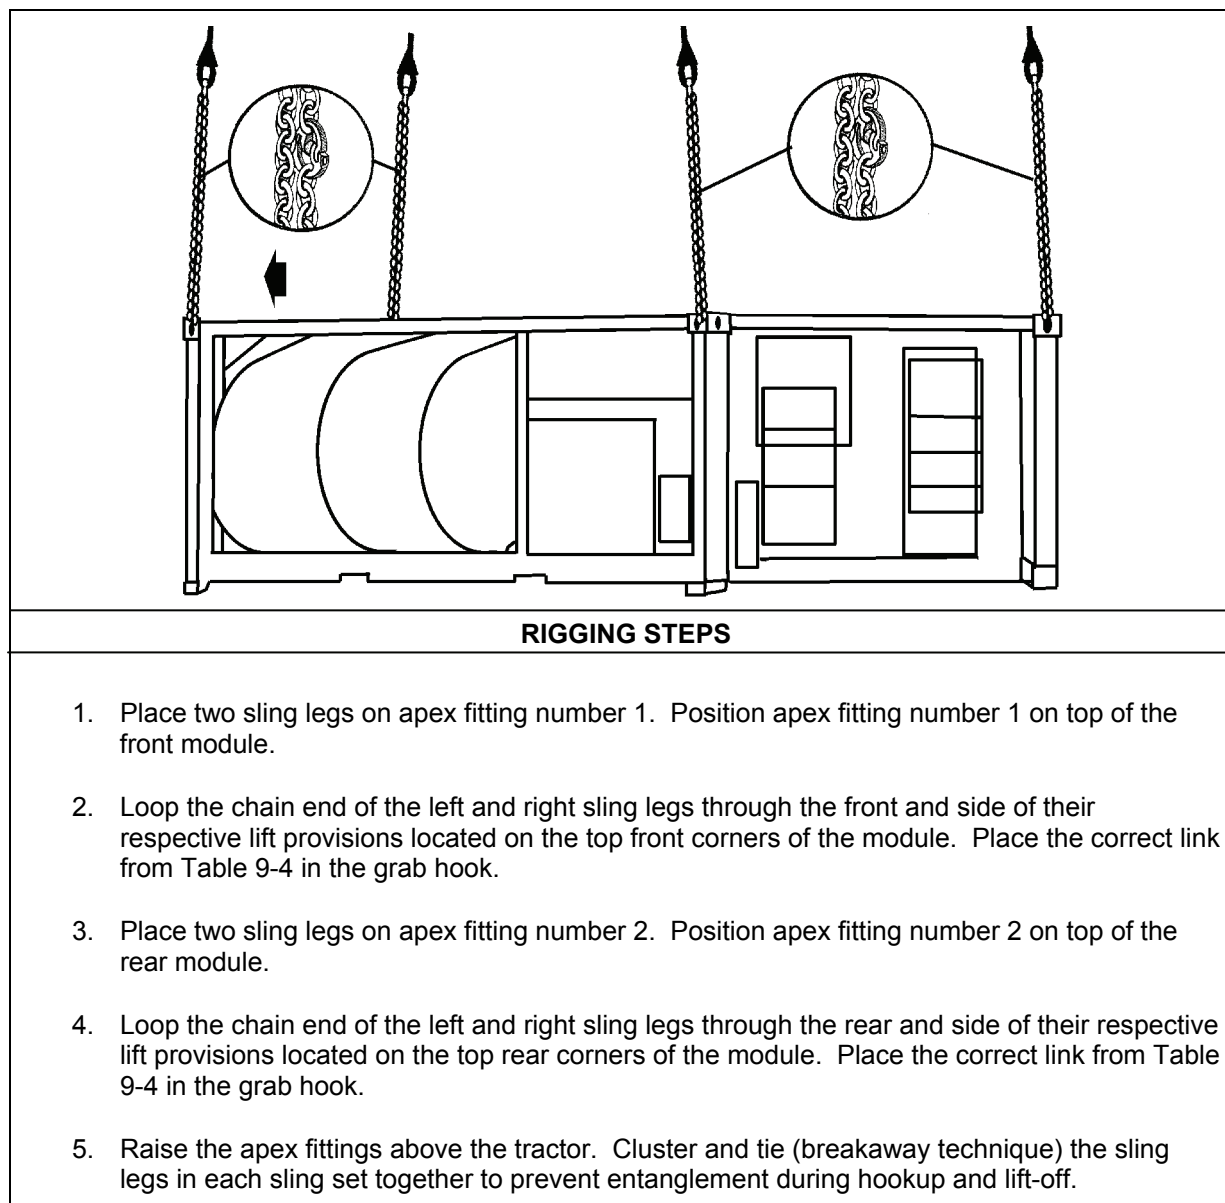

Figure 9-4. Load Handling System-Compatible Water Tank Rack System
- **Rigging.** Rig the load according to the steps in Figure 9-4.